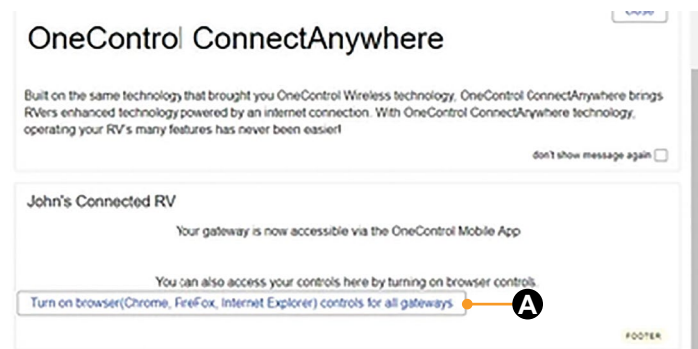

Fig.69
3. The ConnectAnywhere landing page (Fig.69) will display.